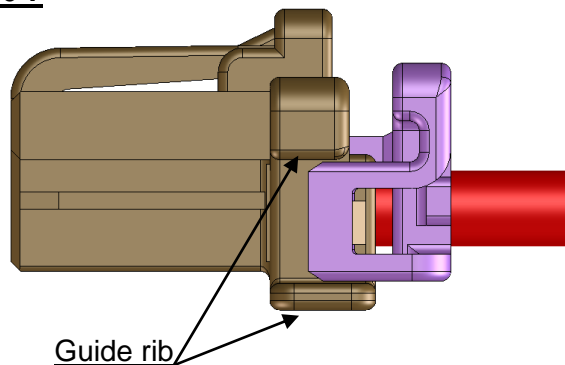

Fig.6-9
- ③ Insert its lock along the guide rib of receptacle housing, and load the retainer slowly and straightly till the lock is hanged completely. (**Fig.6-9**)